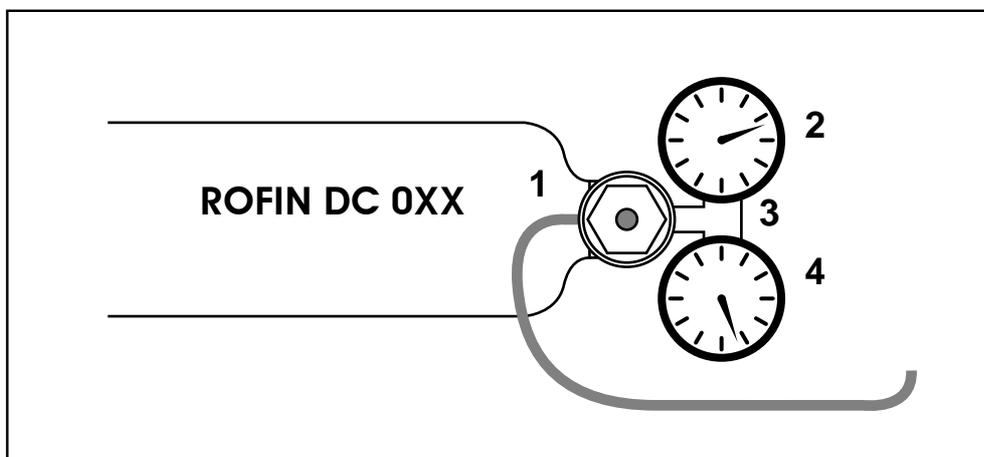

Fig. 7.4.1/1:
- Unscrew and remove the pressure reducer (3) (**Fig. 7.4.1/1**) from the laser gas bottle.
- Remount the pressure reducer (3) (**Fig. 7.4.1/1**) onto the laser gas bottle.